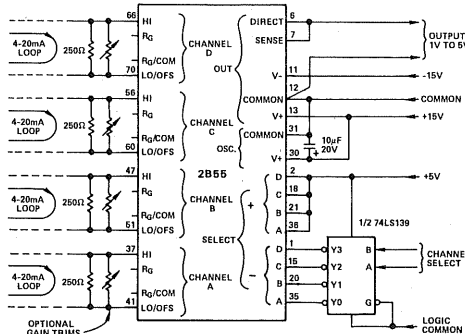

Figure 13. Isolated 4-20mA Loop Signals Interface
**Process Signals Interface:** In Figure 13, the 2B55 is used to provide floating inputs for four 4-20mA process signal loops. The use of floating inputs in this type of application gives protection from common-mode voltages and greatly simplifies system configuration, since additional loads in series with the loop can be connected on either side of the isolator input.